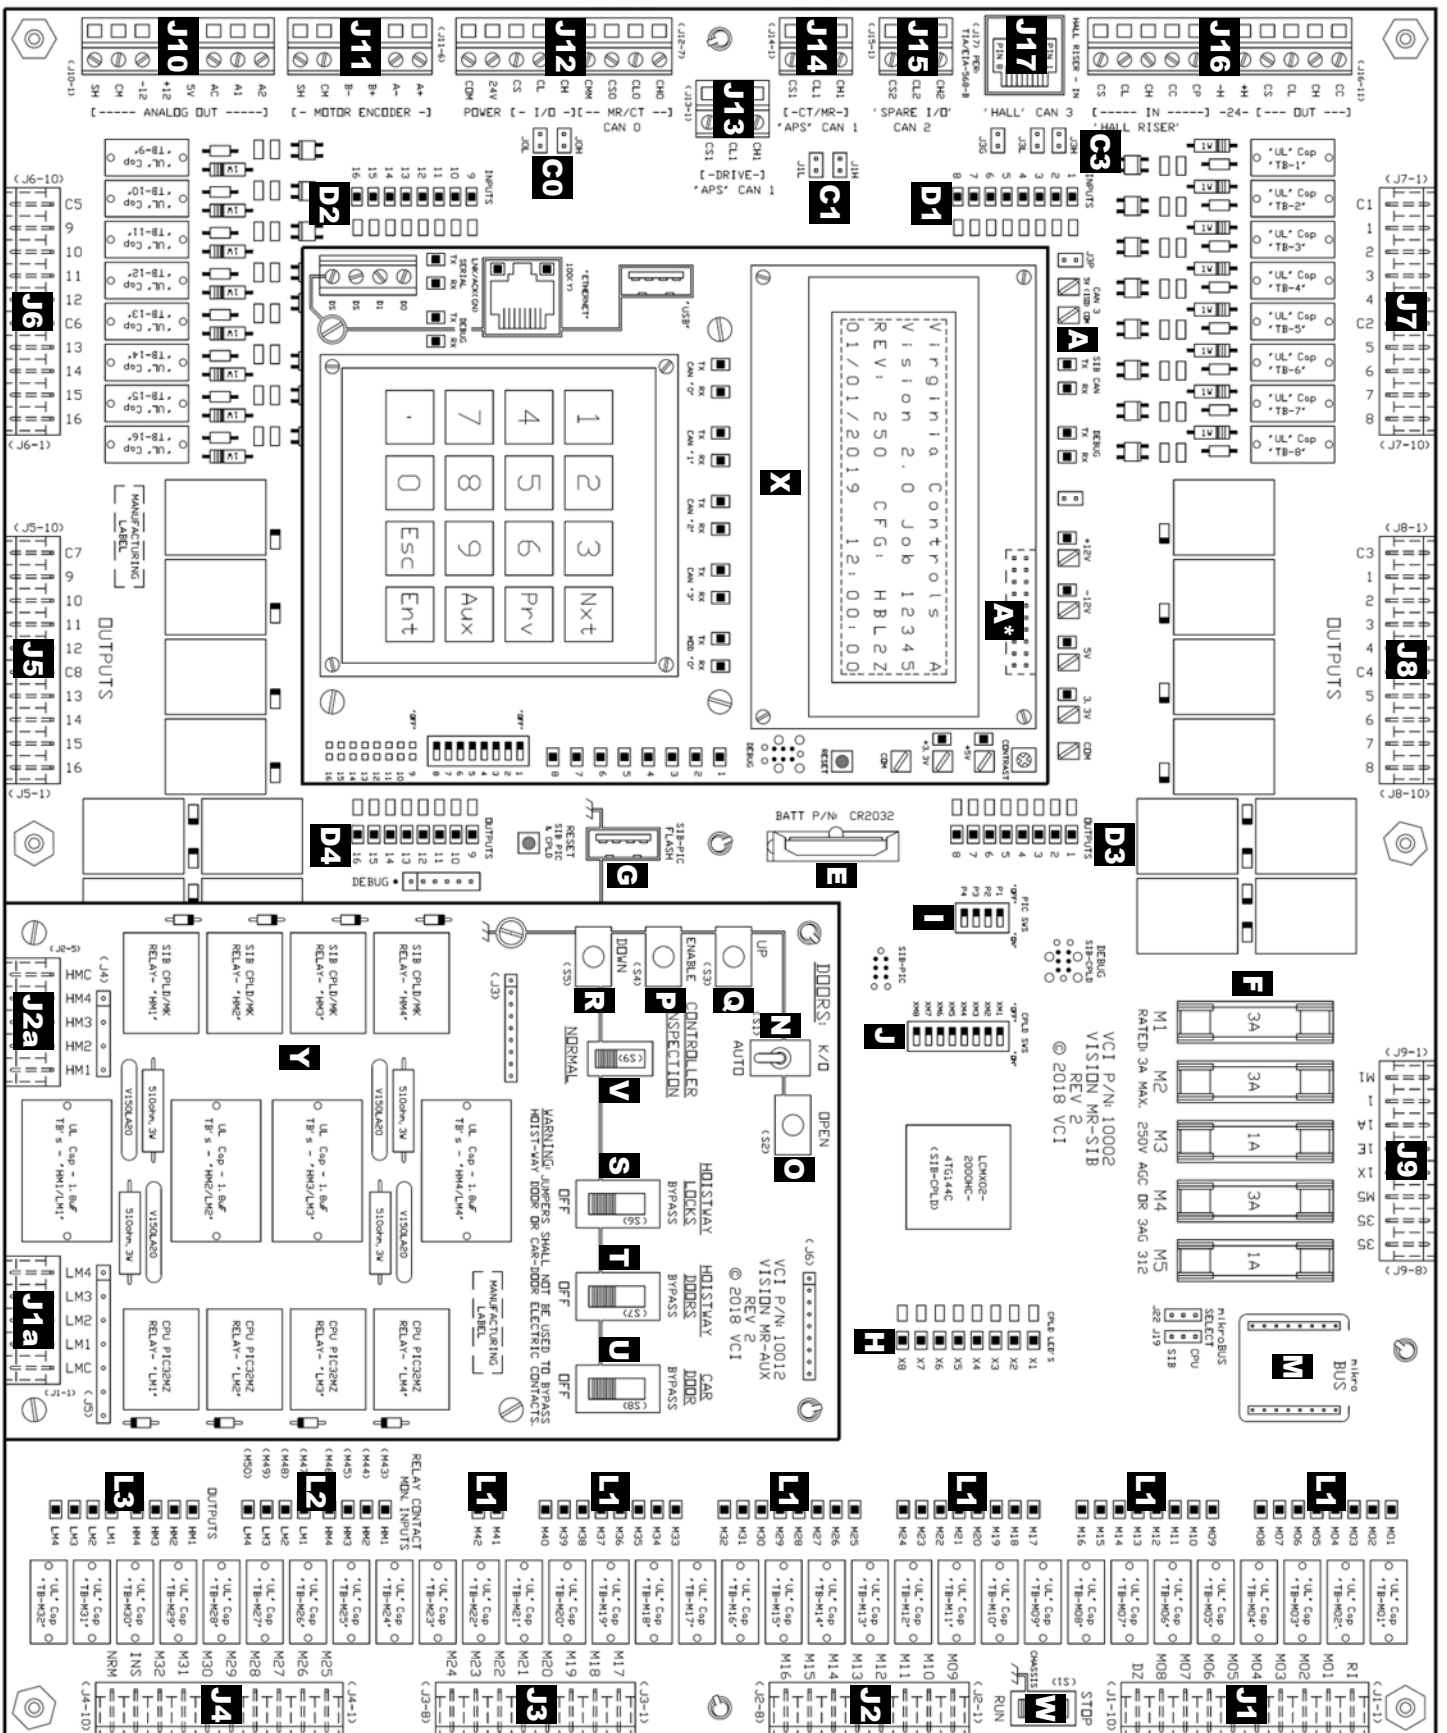

Figure 22: Machine Room Safety Interface Board (MR-SIB) layout.
The Machine Room Safety Interface Board (MR-SIB) layout is shown in Figure 22 and the descriptions are in Table 9.
**Table 9: MR-SIB Layout Descriptions from Figure 22.**
(See MR-SIB items A, A\*, C0, C1, C3, J13 – J17 in Figure 22)
The MR-SIB acts as a hub for connecting CANbus between the controller CPU, I/O boards, CT-SIB, and Absolute Positioning System (channel A). All CANbus connections are made at the left of the MR-SIB, as seen in Figure 22. The MR-SIB is equipped with 4 CANbus channels.
(See MR-SIB & CT-SIB items J1 – J4, L in Figure 22 & Figure 24)
(See MR-SIB items H, J in Figure 22)
(See MR-SIB item F in Figure 22)
(See MR-SIB item E in Figure 22)
(See MR-SIB item O in Figure 22)
(See MR-SIB item N in Figure 22)
(See MR-SIB items P, Q, R, V in Figure 22)
(See MR-SIB items S, T, U in Figure 22)